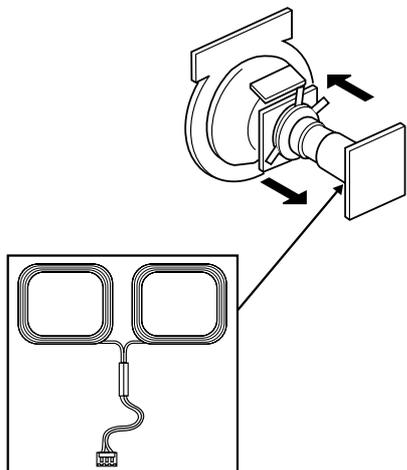

Fig. 2-1
- Move the deflection yoke to the rear and adjust with purity control so that the green is at the center and the blue and the red take up equally sized areas on each side. (See Figures 2-1 through 2-4.)
- Move the deflection yoke forward and adjust so that the entire screen is green. (See Figure 2-1.)